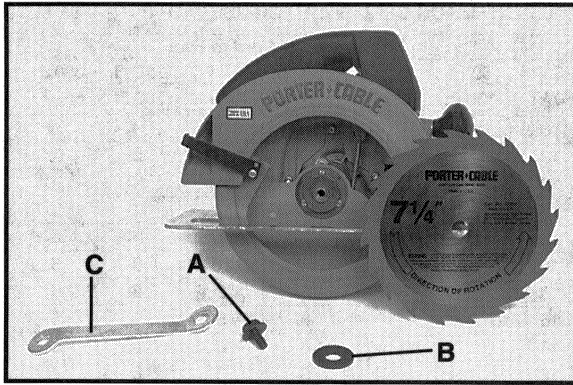

Fig. 1
- Remove the blade retaining bolt by turning it counterclockwise, with the wrench, (C) Fig. 1, furnished with the saw.